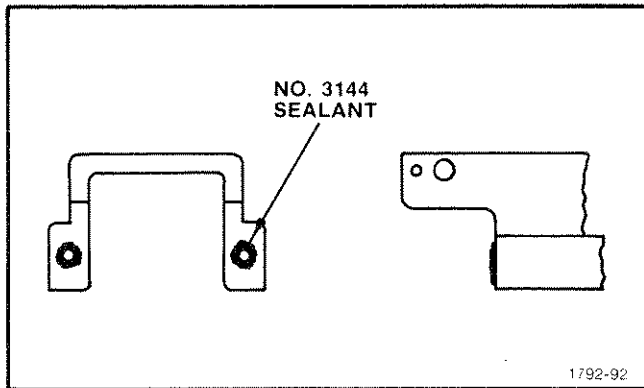

Fig. 5-39. Sealing of latch-assembly screwholes.
**33. Attach Latch Assemblies (2 ea.) to the Front Cover (see Fig. 5-39)**
2. Apply No. 3144 sealant to the two screw-holes in each Latch Assembly as shown in Fig. 5-39.